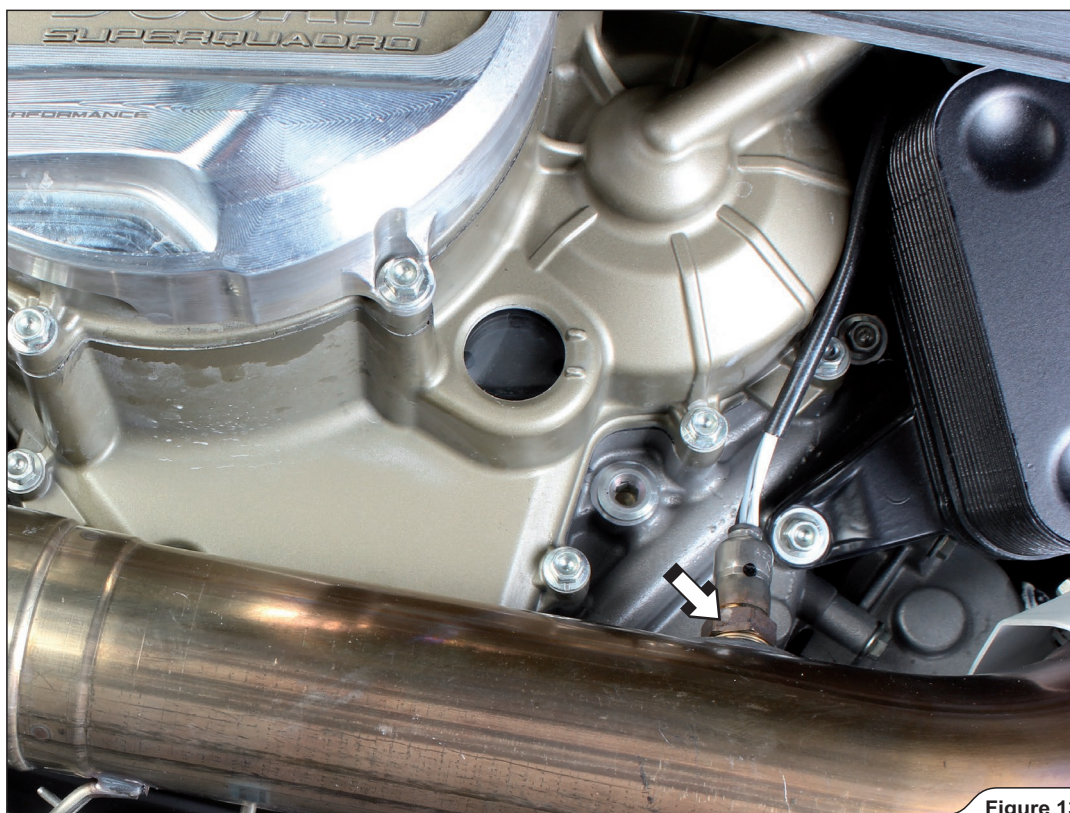

Figure 13
9. Carefully unscrew the front lambda sensor (Figure 13).